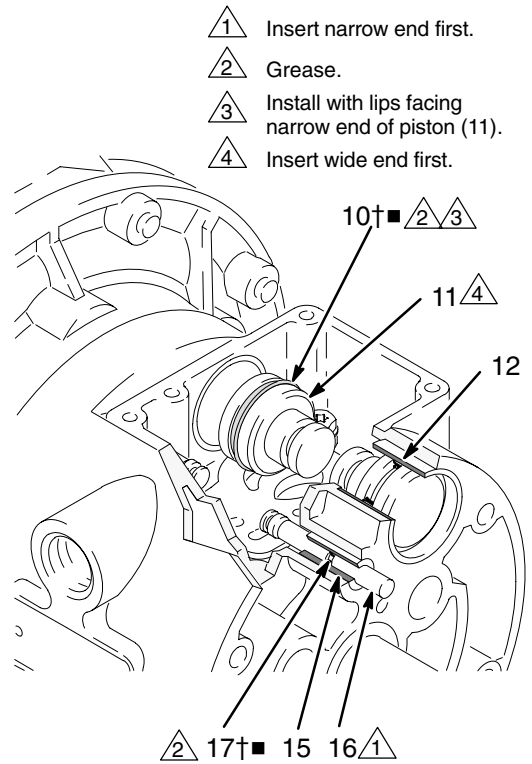

Fig. 10
4. Pull the two actuator pistons (11) out of the bearings (12). Remove the u-cup packings (10) from the pistons. Pull the pilot pins (16) out of the bearings (15). Remove the o-rings (17) from the push pins. See Fig. 10.
6. Inspect the bearings (12, 15) in place. See Fig. 10. The bearings are tapered and, if damaged, must be removed from the outside. This requires disassembly of the fluid section. See page 22.
4. Install an o-ring (17†■) on each pilot pin (16). Grease the pins and o-rings. Insert the pins into the bearings (15), **narrow** end first. See Fig. 10.
5. Install a u-cup packing (10†■) on each actuator piston (11), so the lips of the packings face the **narrow** end of the pistons. See Fig. 10.
6. Lubricate the u-cup packings (10†■) and actuator pistons (11). Insert the actuator pistons in the bearings (12), **wide** end first. Leave the narrow end of the pistons exposed. See Fig. 10.